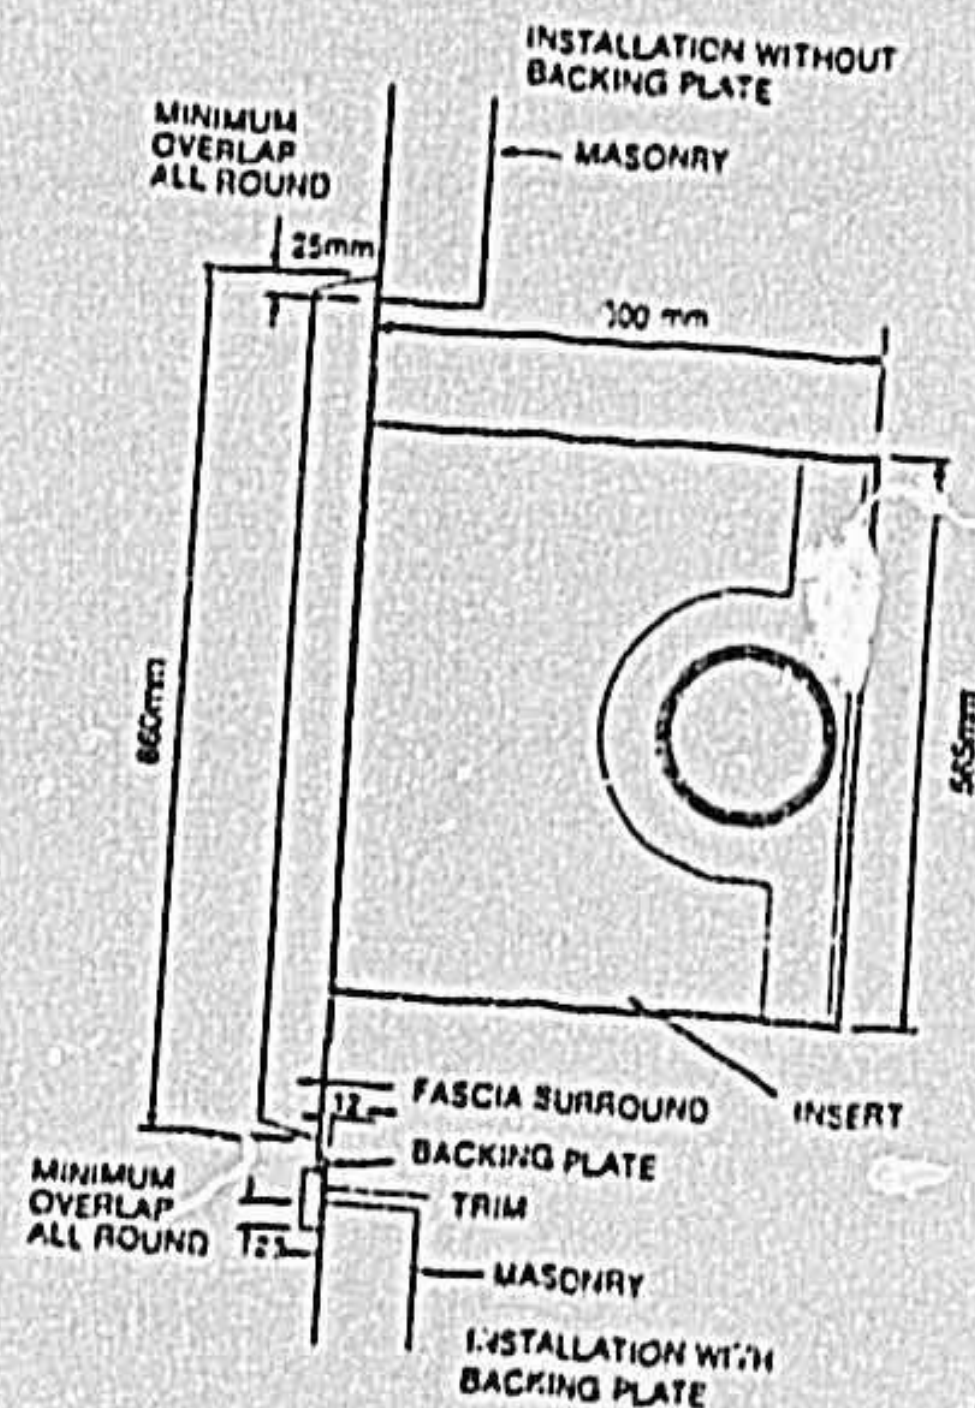

Fig. 1b
3. Measure the height, width and depth of the fireplace opening to ensure the Log Fire will fit. When fitted, the fascia surround should overlap the fireplace opening by at least 25mm on both sides and at the top (see figs. 1b & 1c). If the fascia surround is too small, a backing plate should be fitted.
4. Slide the Log Fire into the fireplace by pushing on the heat exchanger. The flange on the aluminized cabinet should be positioned as shown in Fig. 1b. If this is not possible because the fireplace is too shallow, then allow it to protrude by an additional 50mm so that the optional spacer may be fitted.